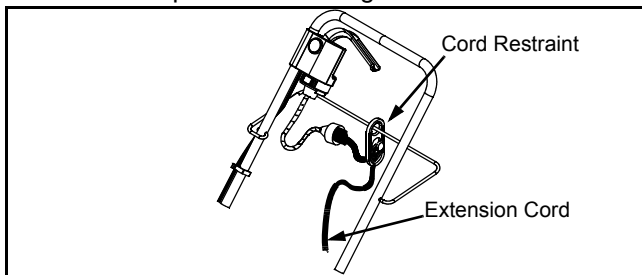

Figure 10
- Keep the cord restraint as close to the motor/blade control as possible. See Figure 10.